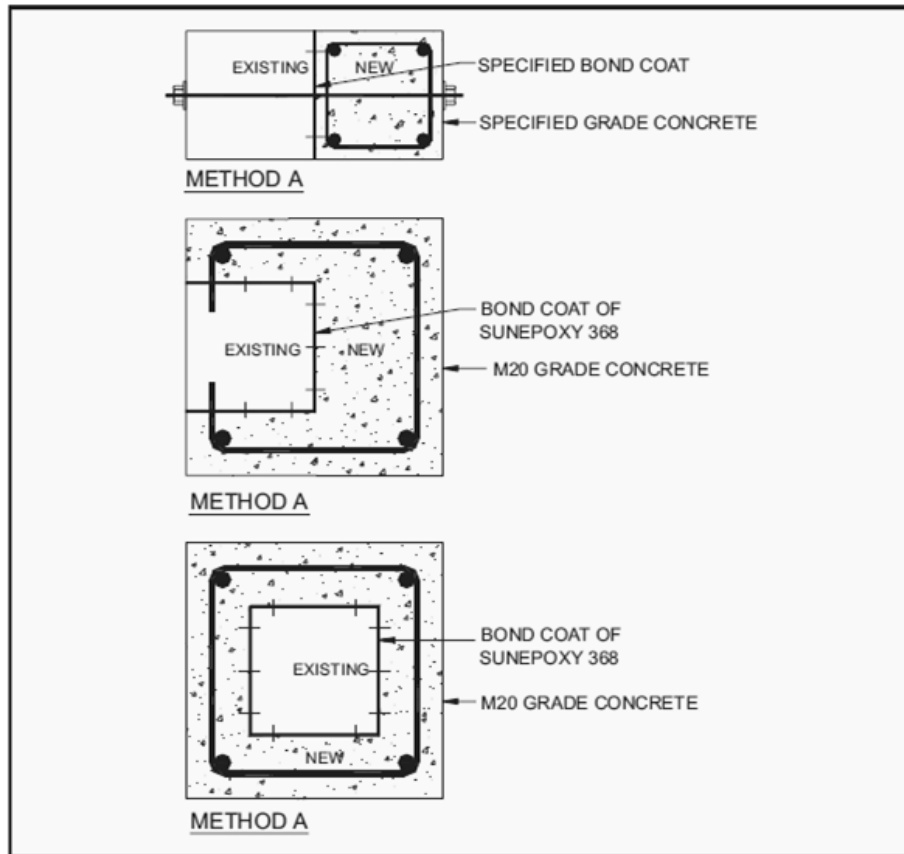

Fig. 6.11 Column Compressive Strengthening by Section Enlargement
**a. Capacity:** The load carrying capacity of the column can be enhanced by section enlargement. Different types of arrangement for section enlargement are shown in Fig. 6.11